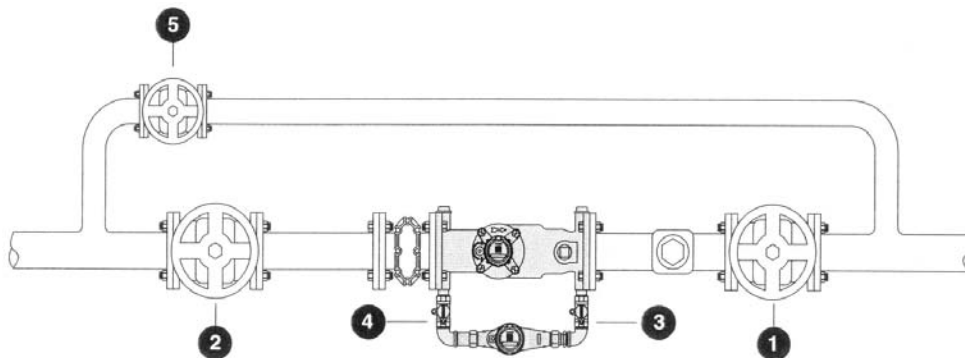

FIGURE 4: START-UP VALVE SEQUENCE
1. Start the service using the by-pass line. With valves #1 and #2 in Figure 4 (below) closed, open valve #5. (If the by-pass line previously existed and was operational during meter installation, skip to Step 2, below).
1. Close the multi-jet meter line (Valves #3 and #4 in Figure 4 below).